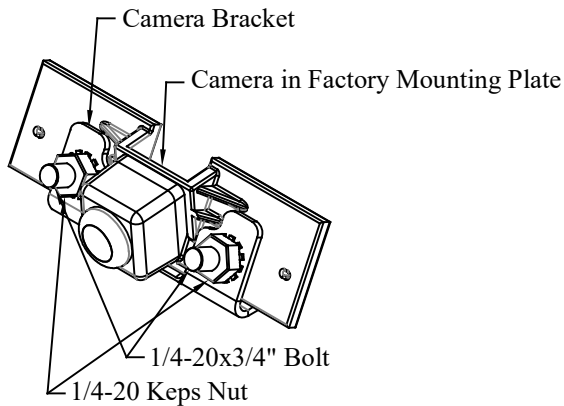

Figure 5: Backup camera in bracket.
9. **Place** camera into bracket and secure using the supplied 1/4-20 hex bolts and nuts (Figure 5).